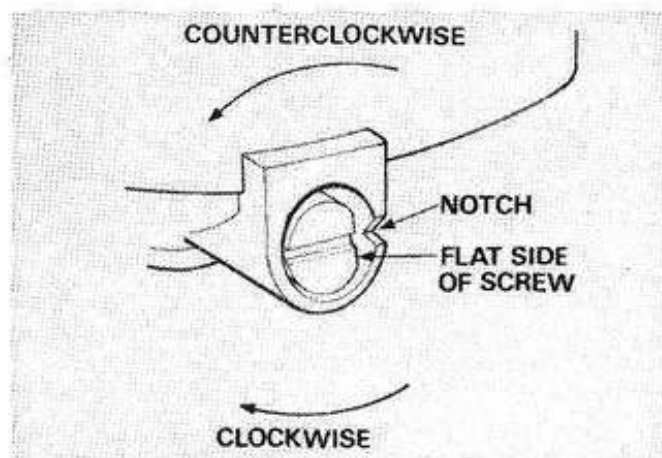

Figure 112. High-Speed Needle Adjustment.
- a. First check the high-speed adjusting needle for proper calibration with the notch in the float bowl housing. (See Figure 112.) Open the adjusting needle 60 minutes (one full swing of the minute hand around a clock face), counterclockwise from the notched position. Also open the idle mixture screw 60 minutes for initial start.